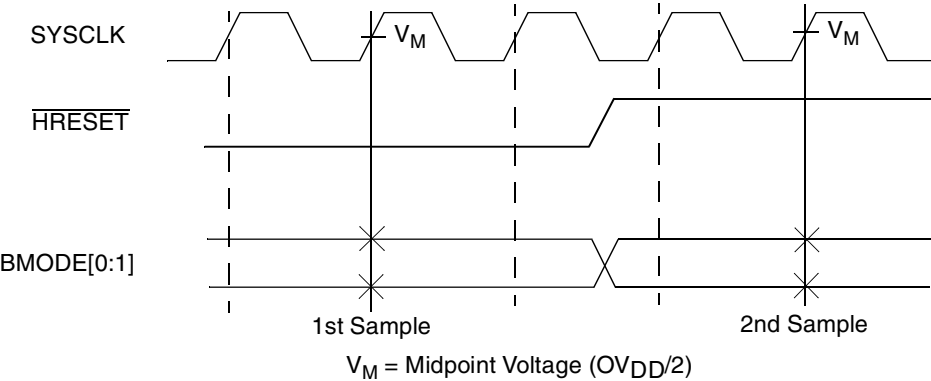

Figure 5. $\overline{\text{BMODE}}[0:1]$ Input Sample Timing Diagram
8. $\overline{\text{BMODE}}[0:1]$ and $\text{BVSEL}[0:1]$ are mode select inputs. $\overline{\text{BMODE}}[0:1]$ are sampled before and after $\overline{\text{HRESET}}$ negation. $\text{BVSEL}[0:1]$ are sampled before $\overline{\text{HRESET}}$ negation. These parameters represent the input setup and hold times for each sample. These values are guaranteed by design and not tested. $\overline{\text{BMODE}}[0:1]$ must remain stable after the second sample; $\text{BVSEL}[0:1]$ must remain stable after the first (and only) sample. See Figure 5 for sample timing.
Figure 5 provides the $\overline{\text{BMODE}}[0:1]$ input timing diagram for the MPC7448. These mode select inputs are sampled once before and once after $\overline{\text{HRESET}}$ negation.